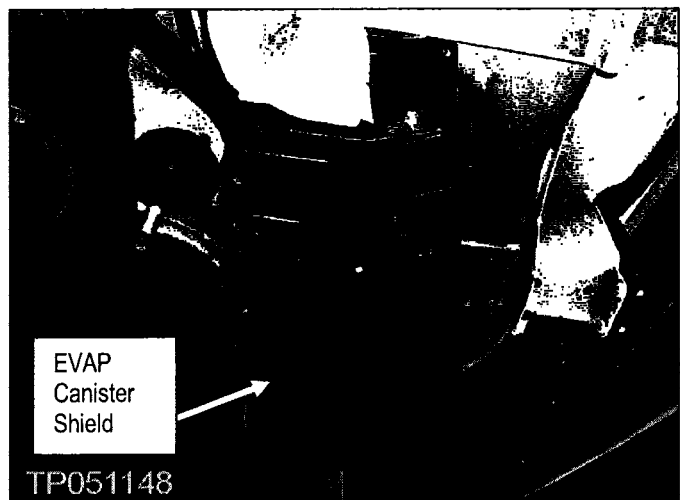

Figure 70
33. Remove three nuts and remove the evaporative canister shield (see Figure 70).